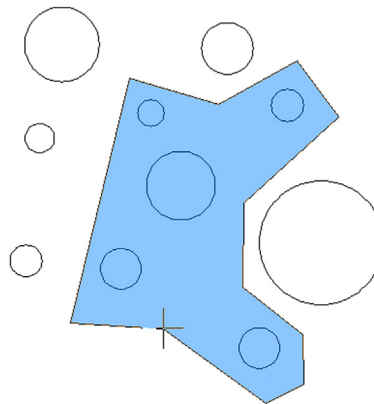

FIGURE 15.44
Step 1. Draw a set of circles, as seen in Figure 15.44.
Notice the difference here between the standard Window selection tool (strictly rectangular in nature) and the flexible “any shape you want it” Window polygon (Figure 15.44). Its action, of course, is similar; everything it encloses is selected.